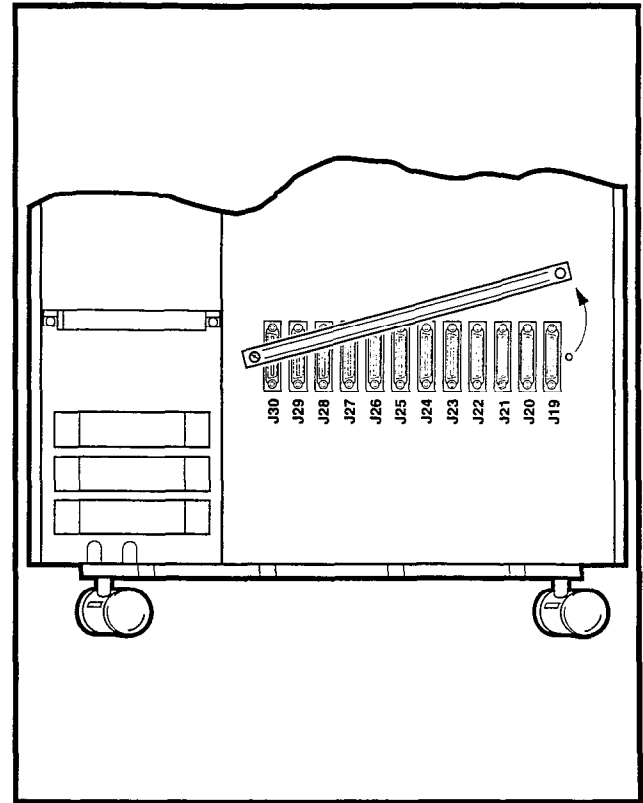
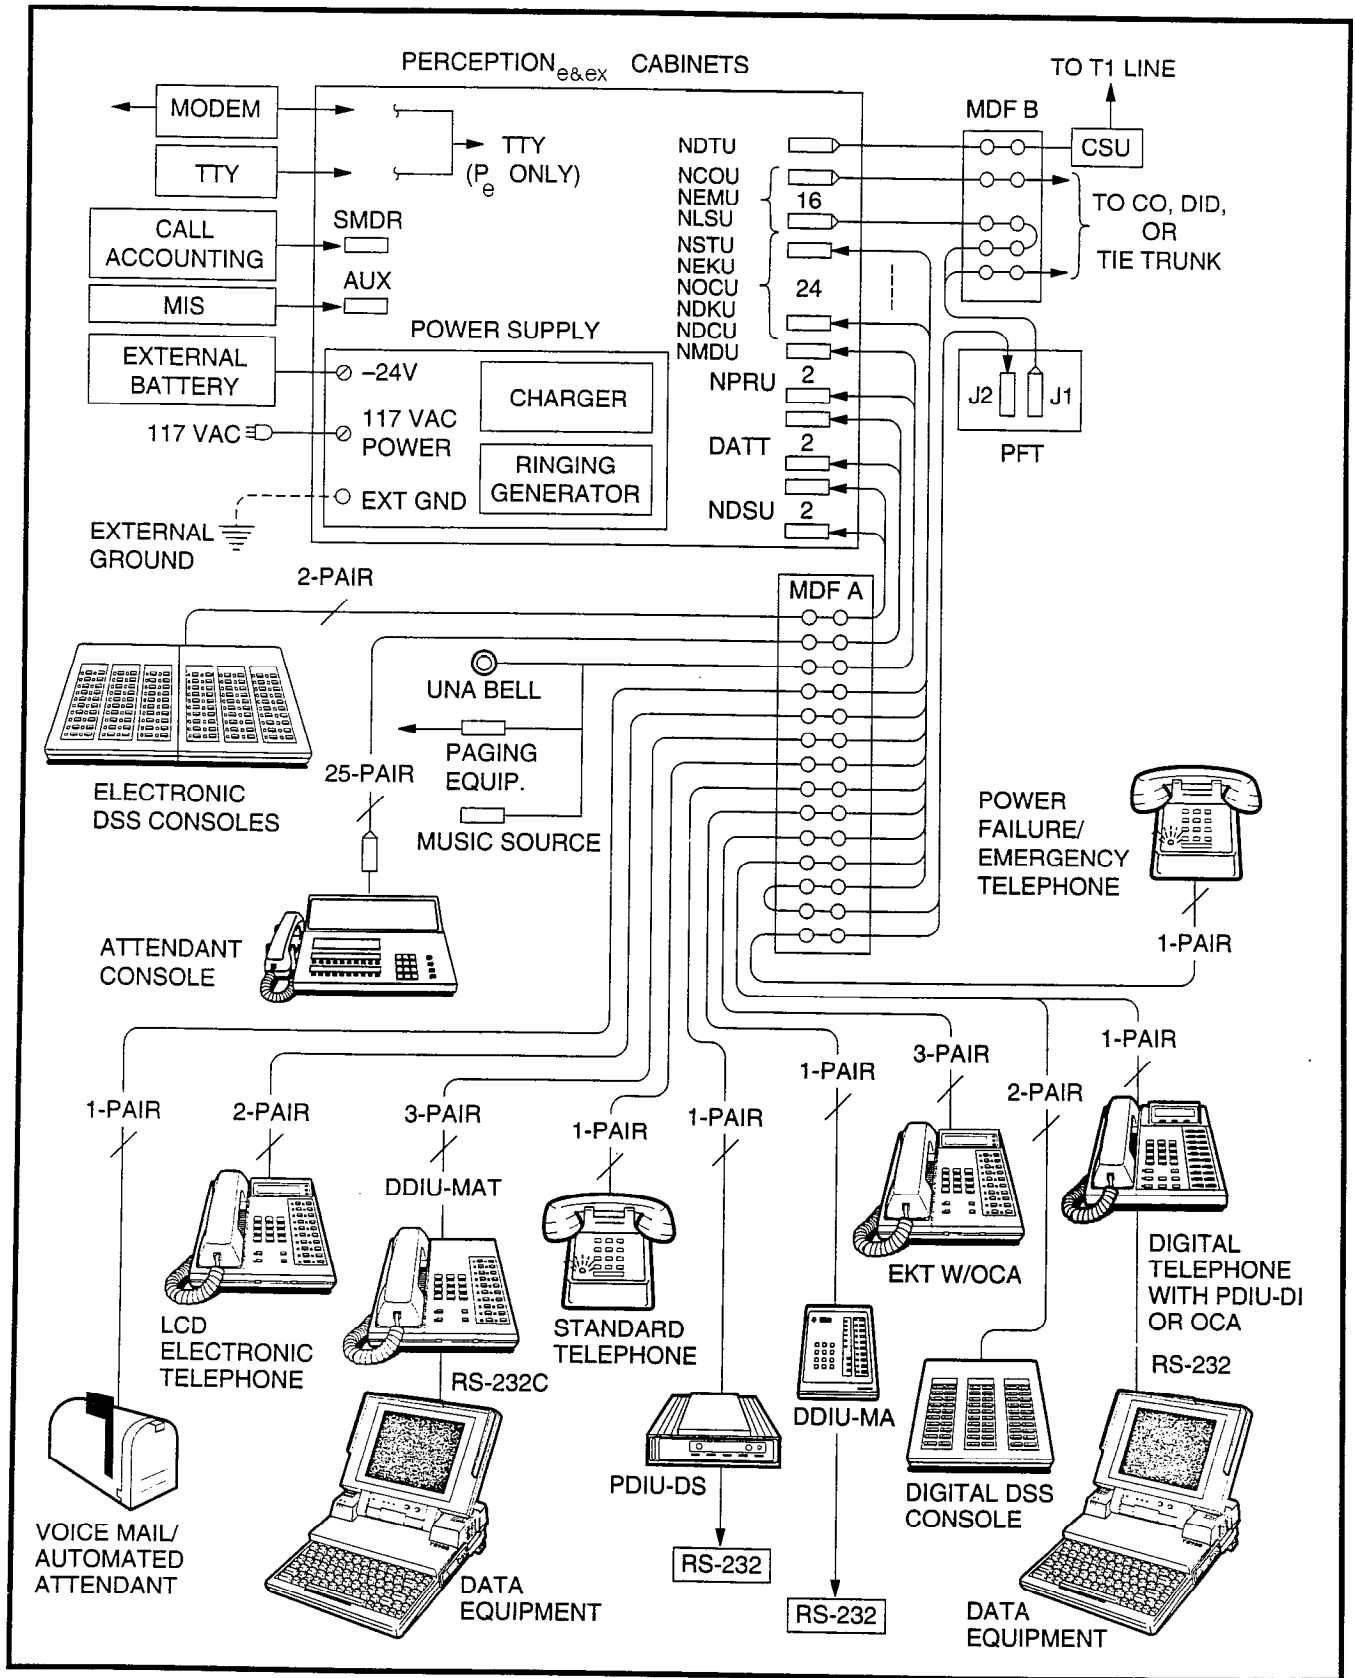

FIGURE 5-1—CONNECTOR LOCKING BAR
FIGURE 5-2—MAIN DISTRIBUTION FRAME LAYOUT
1.01 Cables with male amphenol-type connectors are attached to the connector panels of the basic and expansion cabinets and secured with the connector locking bar (Figure 5-1). Plastic cable clamps are provided along the base of the basic cabinet to secure cables. The opposite ends of the cables are then terminated on 66-type quick-connect terminal blocks on the MDF (split blocks with bridging clips should be used to allow for fault isolation). A typical MDF layout is shown in Figure 5-2. Connect each cable from the basic and expansion cabinets to one side of the block and external equipment cables to the other side. Use bridge clips to make the connections.